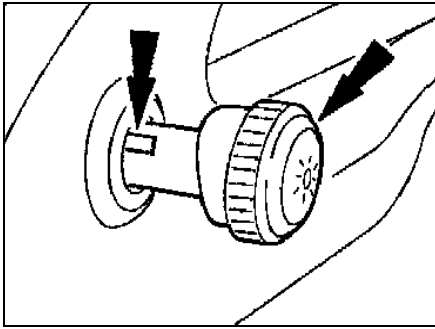

Figure 1
- B. Remove the headlamp switch knob by inserting a narrow tool or standard screwdriver in the slot on the side of the headlamp . Slide the tool along the slot moving towards the front end of the knob and pull the knob away from the dash to release the knob from the shaft. (See Figure 1)